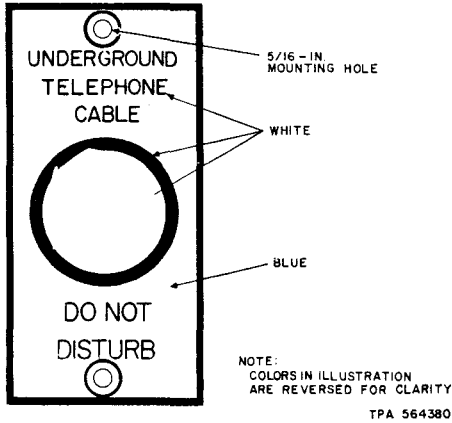

Fig. 3—Cable Location Sign
2.16 The cable location sign (Fig. 3) is for use on short marker posts or fence posts where the warning provided by a small sign is adequate. The sign is made of porcelain enameled steel 3-1/2 inches by 7-1/8 inches.